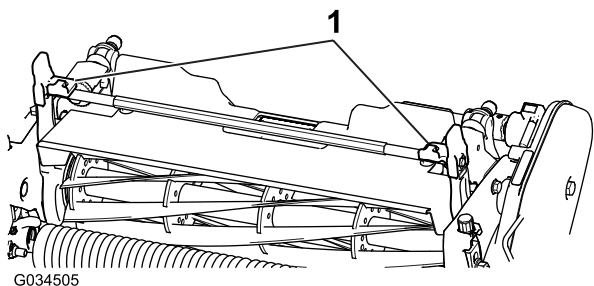
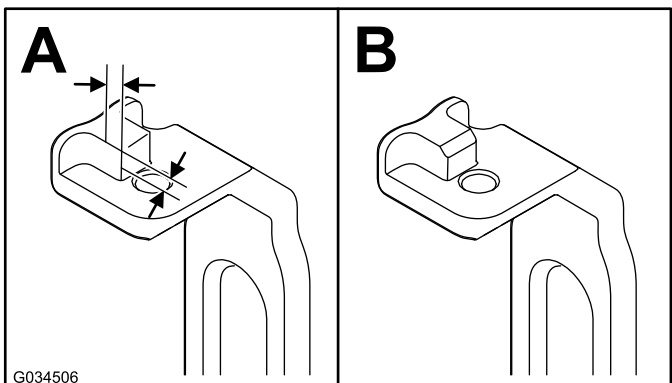

Figure 3
Figure 4
2. On both pitch arms (Figure 3), measure 2 mm (0.09 inch) in on the tabs and grind down the corner as shown in Figure 4.